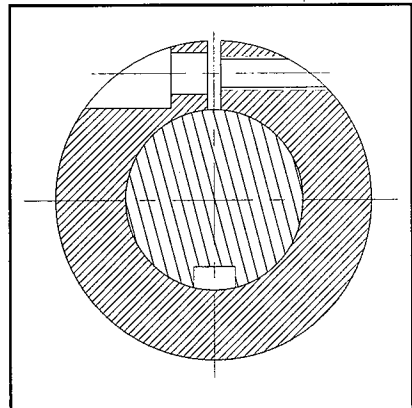

Figure 16: Position the slot of the impeller shaft opposite the motor shaft keyway.
Lubricate the inside of the impeller shaft (30) liberally with NEVER-SEEZ. Slide the impeller shaft onto the motor shaft and position the slot of the impeller shaft opposite the motor shaft keyway (**Figure 16**).